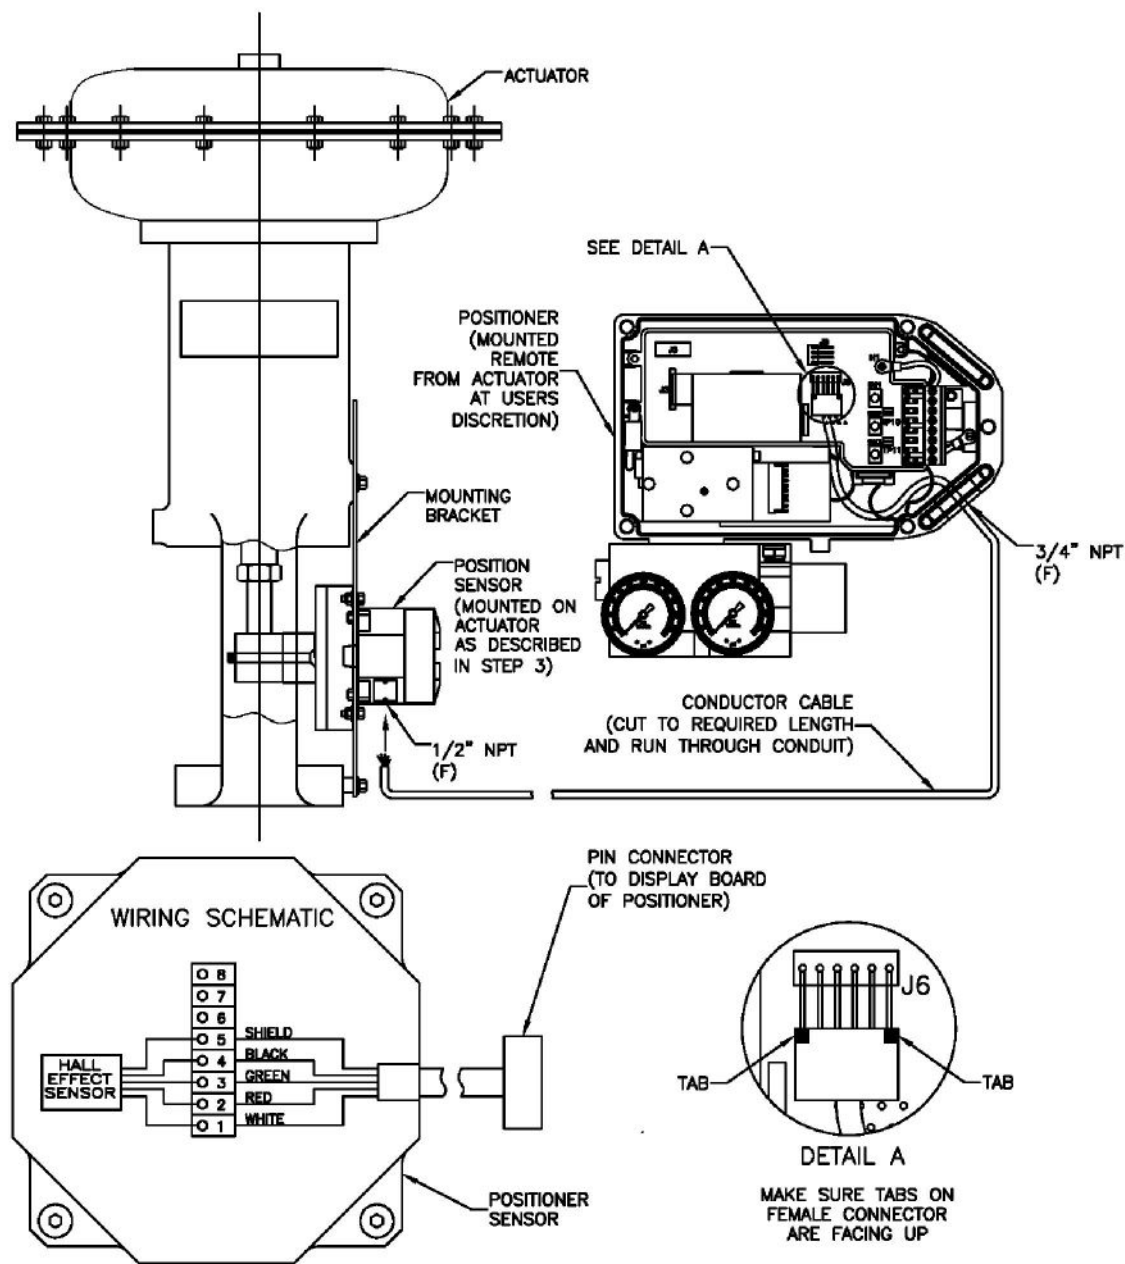

Figure 3-8
Step 4. Remove the electronic canister cover by unscrewing (2) mounting screws. (Appendix B: Procedure to Remove Electronics Cover and Electronic Canister)
Step 5. If necessary cut remote cable to required length, making sure to cut end opposite female connector. Wire the positioner sensor back to the positioner using the cable provided and replace cover. (See Figure 3-8).